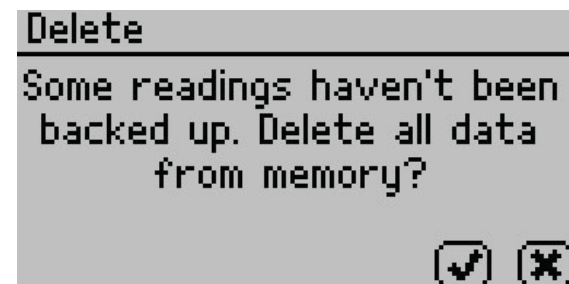

Figure 45 Delete option backup reminder dialog
- **Delete.** Select this option to delete all data currently stored in the instrument. Readings cannot be deleted individually. If the information has not been backed up, a reminder will appear (Figure 45).